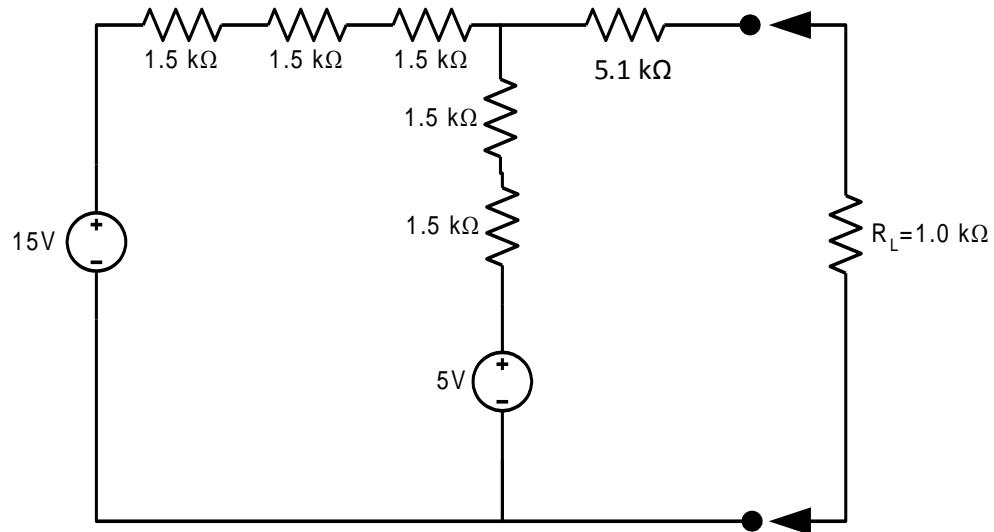

Figure 2: Second Circuit of Circuit V Lab
1. Construct the circuit shown in Figure 2 using the breadboard. For this step, use the standard **+15V and AO** channel on your myDAQ. (**Connect the ground only to the load resistor!**) Also **NOTE: Do not use both the +15V and 5V preset sources. Use AO to generate the 5V.**